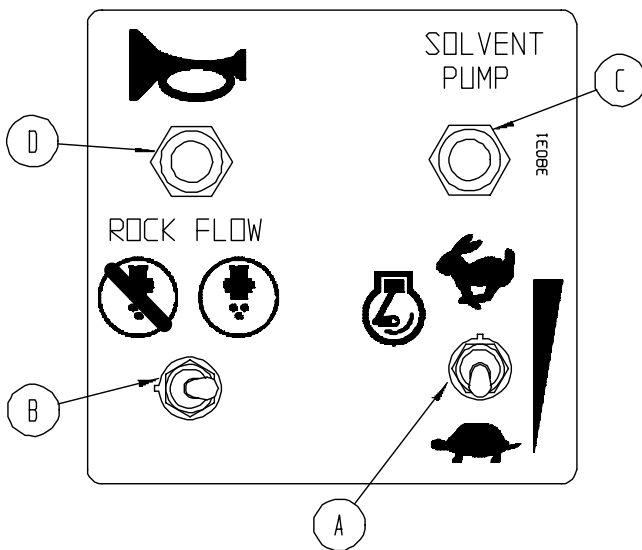

Figure 4-D
In the following patching instructions, components and system controls of the RA-2000 Patcher are illustrated in *Figures 4-C and 4-D*.
SPECIAL NOTE: At the beginning of each day, the solvent must be emptied from the emulsion line. This procedure should be done as close to the job site as possible to prevent the set up of new asphalt in the nozzle. Run the engine long enough to pressurize the asphalt tank. Then shut off the engine. With the **3-way Valve** (Figure 4-C) on the lower rear of the asphalt tank in **Emulsion** position and the **Rock Flow Switch** (item B, Figure 4-D) **OFF**, place the waste catch bucket under the nozzle and be sure that both asphalt supply valves at the discharge nozzle are open. Push the **Emulsion Control Lever** slowly **ON**. Leave on until all solvent is removed and liquid asphalt begins to flow from the nozzle. Pull the **Emulsion Control Lever** back to stop the flow. If you must travel to the job site, replace the discharge nozzle in the cradle and move the boom to the travel position and lock in place.
2. Set the truck parking brake. Turn on the beacon with the **Beacon Switch** (Figure 4-B Page 4-9) to warn traffic to go around the truck.
4. Start engine. Be sure all gauges are within the normal readings. Warm the engine to operating temperature before starting to patch. Put the 3-way valve (Figure 4-C) in the **Emulsion** position.